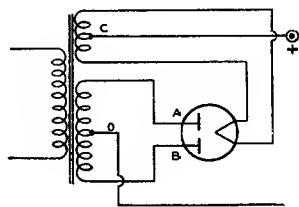

Fig. 3
**Maximum peak inverse voltage** characteristic of a rectifier tube is the highest peak voltage that a rectifier tube can safely stand in the direction opposite to that in which it is designed to pass current. In other words, it is the safe arc-back limit with the tube operating within the specified temperature range. Referring to Fig. 3, when plate A of a full-wave rectifier tube is positive, current flows from A to C, but not from B to C, because B is negative. At the instant plate A is positive, the filament is positive (at high voltage) with respect to plate B. The voltage between the positive filament and the negative plate B is in inverse relation to that causing current flow. The peak value of this voltage is limited by the resistance and nature of the path between plate B and filament. The maximum value of this voltage at which there is no danger of breakdown of the tube is known as maximum peak-inverse voltage. The relations between peak inverse voltage, rms value of a-c input voltage and d-c output voltage depend largely on the individual characteristics of the rectifier circuit and the power supply. The presence of line surges or any other transient, or wave-form distortion may raise the actual peak voltage to a value higher than that calculated for sine-wave voltages. Therefore, the actual inverse voltage, and not the calculated value, should be such as not to exceed the rated maximum peak inverse voltage for the rectifier tube. A cathode-ray oscillograph or a spark gap connected across the tube is useful in determining the actual peak inverse voltage. In single-phase, full-wave circuits with sine-wave input and with no condenser across the output, the peak inverse voltage on a rectifier tube is approximately 1.4 times the rms value of the plate voltage applied to the tube. In single-phase, half-wave circuits with sine-wave input and with condenser input to the filter, the peak inverse voltage may be as high as 2.8 times the rms value of the applied plate voltage. In polyphase circuits, mathematical determination of peak inverse voltage requires the use of vectors.